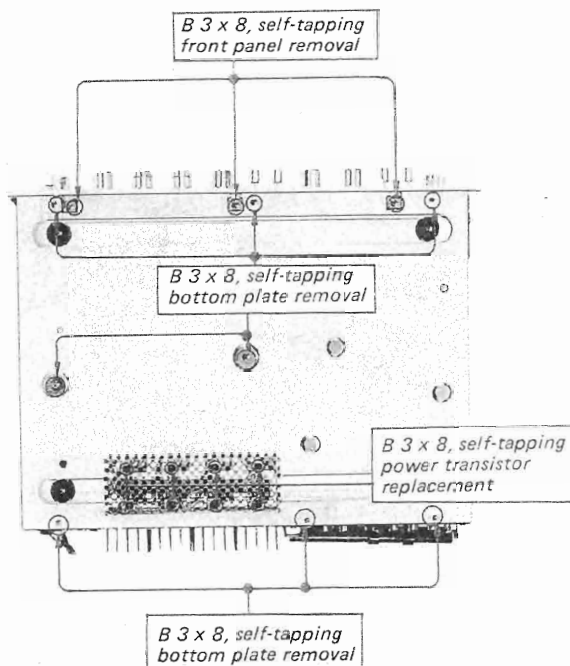
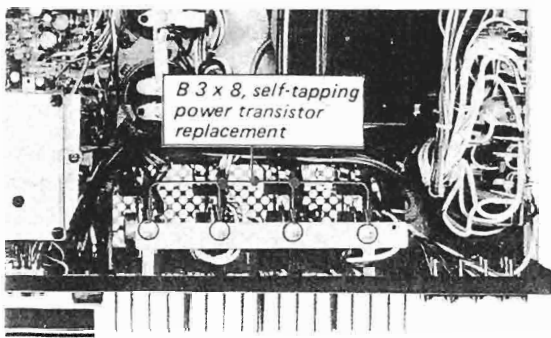

Fig. 2-1. Bottom plate and front panel removal
Fig. 2-8. Power transistor replacement
Remove the eight self-tapping screws shown in Fig. 2-1. This frees the bottom plate.
2. Remove the three self-tapping screws shown in Fig. 2-1.
1. Remove the twelve self-tapping screws (eight at rear bottom and four at rear top) as shown in Fig. 2-1 and Fig. 2-8.